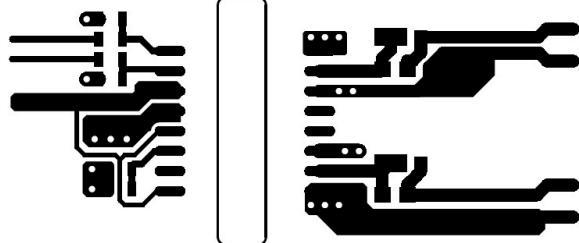
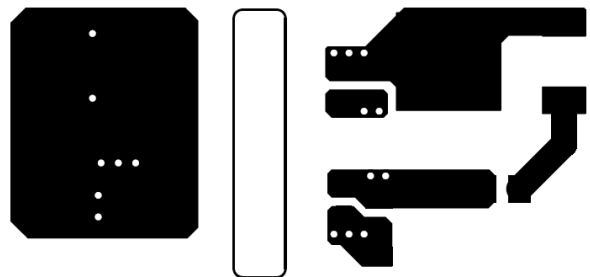

Figure 11-2. Top Layer Traces and Copper
Figure 11-3. Bottom Layer Traces and Copper
- Increasing the PCB copper connecting to VDDA, VDDB, VSSA and VSSB pins is recommended (See Figure 11-2 and Figure 11-3). However, high voltage PCB considerations mentioned above must be maintained.
Figure 11-2 and Figure 11-3 shows top and bottom layer traces and copper.